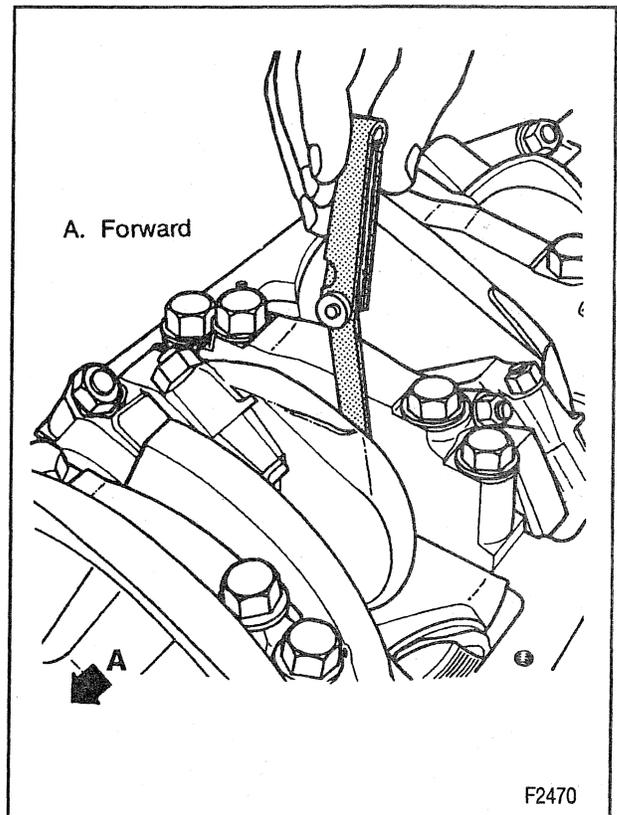

Figure 33—Measuring Crankshaft End Play
- C. With the crankshaft forced forward, measure at the front end of the number 3 main bearing with a feeler gage (figure 33). The proper clearance is 0.10-0.25 mm (0.0039-0.0098 inch).